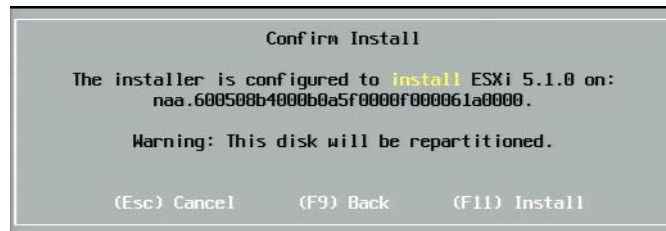

Figure 13-30. ESXi Confirm Install
7. On the Confirm Install window (Figure 13-30), press the F11 key to confirm the installation and repartition.